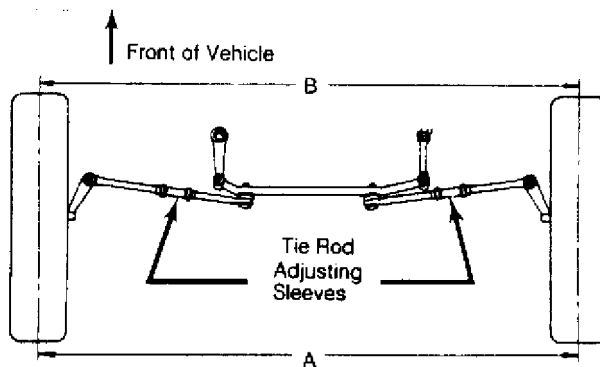

Fig. 2: Adjusting Tie Rod Sleeves (Top View)
- \* Steering wheel must be centered with wheels in straight ahead position. If required, shorten one tie rod adjusting sleeve and lengthen opposite sleeve (equal amount of turns). See Fig. 2.
- 1) Measure toe-in with front wheels in straight ahead position and steering wheel centered. To adjust toe-in, loosen clamps and turn adjusting sleeve or adjustable end on right and left tie rods. See Figs. 2 and 5.